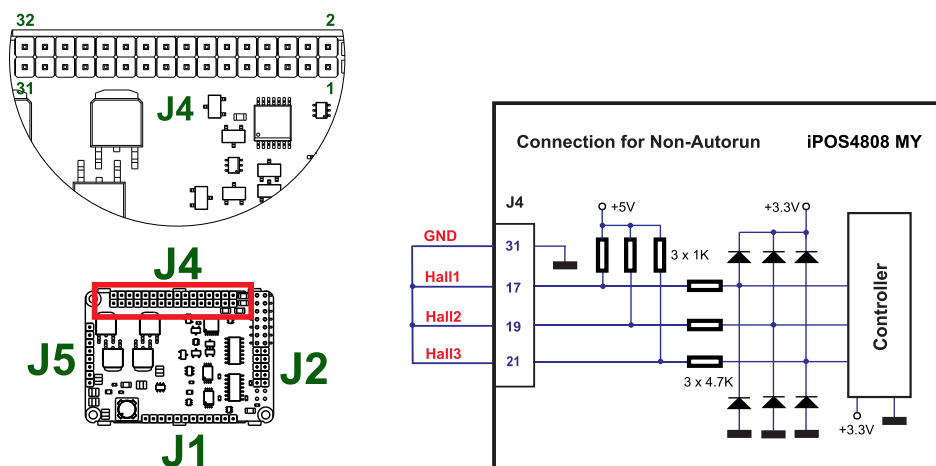

Figure 3.28. Temporary connection during power-on to remove the drive from Autorun mode
- Hardware – by temporary connecting all digital Hall inputs to GND, during the power on for about 1s (until the green led is turned on), as shown in *Figure 3.28*. This option is particularly useful when it is not possible to communicate with the drive.